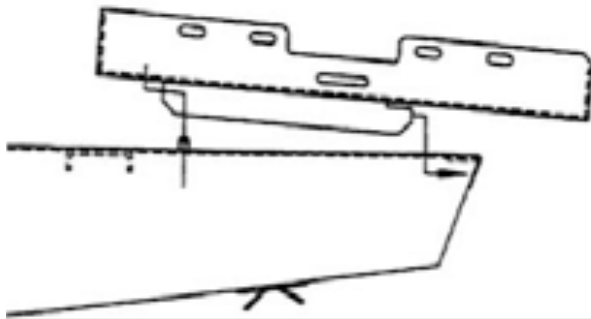

Figure 5a
2. Orient SmartBox[®] cradle as shown (see figure 5a).